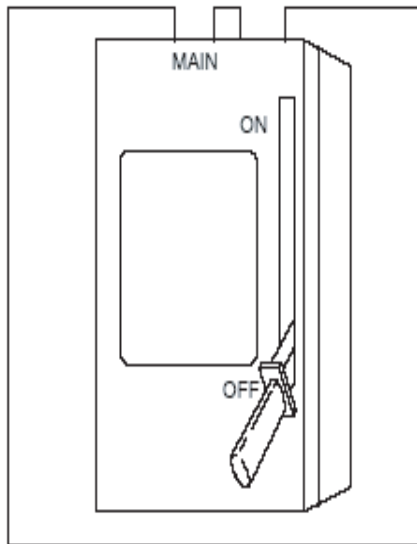

Fig. 1 - Main Electrical Disconnect
Disconnect all electrical power to the indoor air handler or furnace before removing access panels to perform any maintenance. Disconnect power to both the indoor and outdoor units (see Fig. 1.)
- Check the indoor and outdoor disconnect switches (see Fig. 1.) Also check your main electrical panel circuit breakers or fuses.